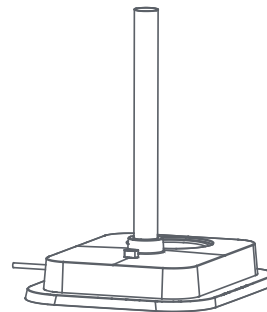

Fig. 2
3. Install the second and third telescopic poles onto the first telescopic pole in sequence (see Fig. 2).